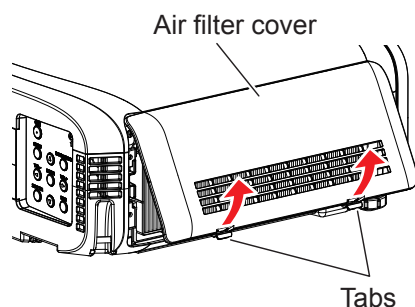

Fig. 1
- 2) Remove the air filter cover (Fig. 1).